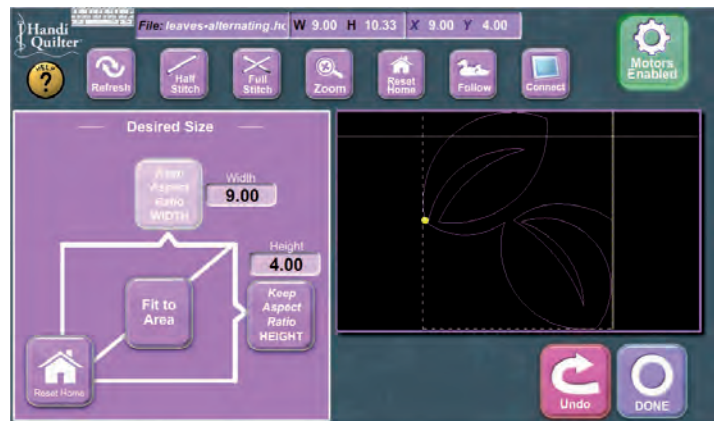

Figure 14
4. The same can be done with the width by entering a desired width and using the “Keep Aspect Ratio Width” button (Figure 14).